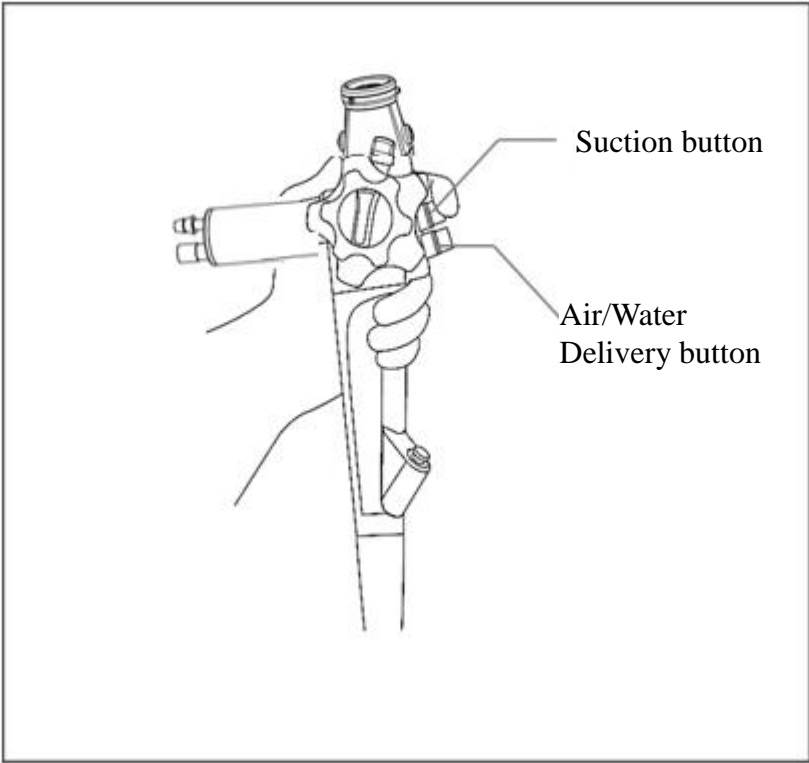

Figure 4.3
1. Block the small hole on the Air/Water Delivery button and deliver air through the air/water delivery nozzle of the tip (as shown in Figure 4.3).
2. Press the Air/Water Delivery button to deliver water to the objective lens (as shown in Figure 4.3).
Press the Suction button to suck excess liquid or other debris that may obstruct the endoscope’s field of view (as shown in Figure 4.3).